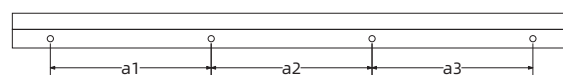
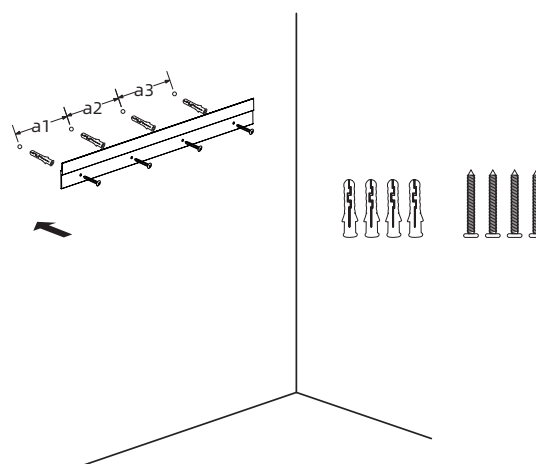

Fig.1
Fig.2
- ① Open the product packaging, and check whether the product has any cosmetic or functional damage; if yes, please return it to the dealer.
- ② After selecting the location of the mirror cabinet, check whether the wall is solid, measure the distance of the holes (a1,a2,a3) in the aluminum alloy bar with a tape measure and mark the wall with a level and pencil (Fig. 1).
- ③ Drill holes in the marked positions with electric drill and $\phi 4$ drill bit. Use a special ceramic drill if the wall surface is ceramic tile.
- ④ Knock the expansion plugs into the holes in the wall with a hammer. Tighten the screws with a screwdriver to fix the bar. Finally calibrate the level with a spirit level (Fig. 2).